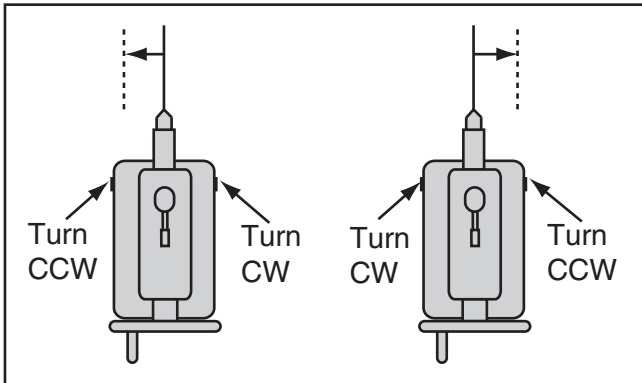

Figure 30. Set screw adjustment in relation to tailstock movement.
2. Rotate the adjustment set screws in opposite directions for the desired offset (see the illustration in **Figure 30**).